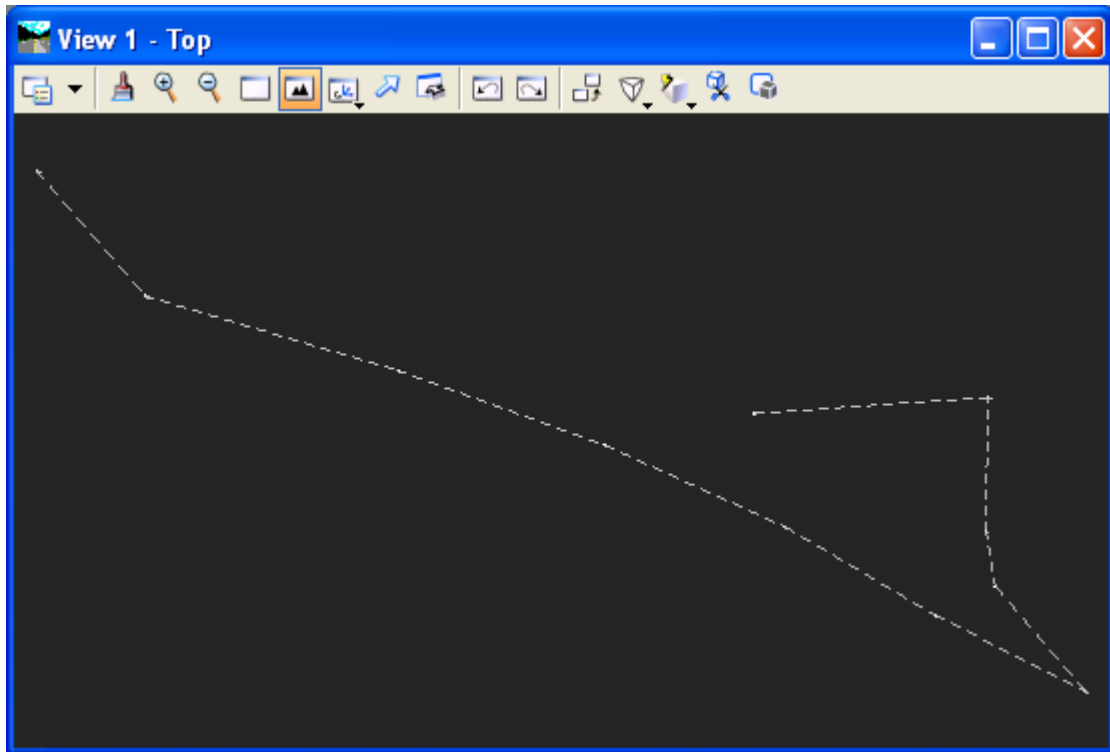

Figure 2-5 MicroStation View of Traverse Lines
H. From the InRoads main menu bar select **Survey > View Survey Data > Network**. This will display the Traverse lines between the points as shown in Figure 2-5